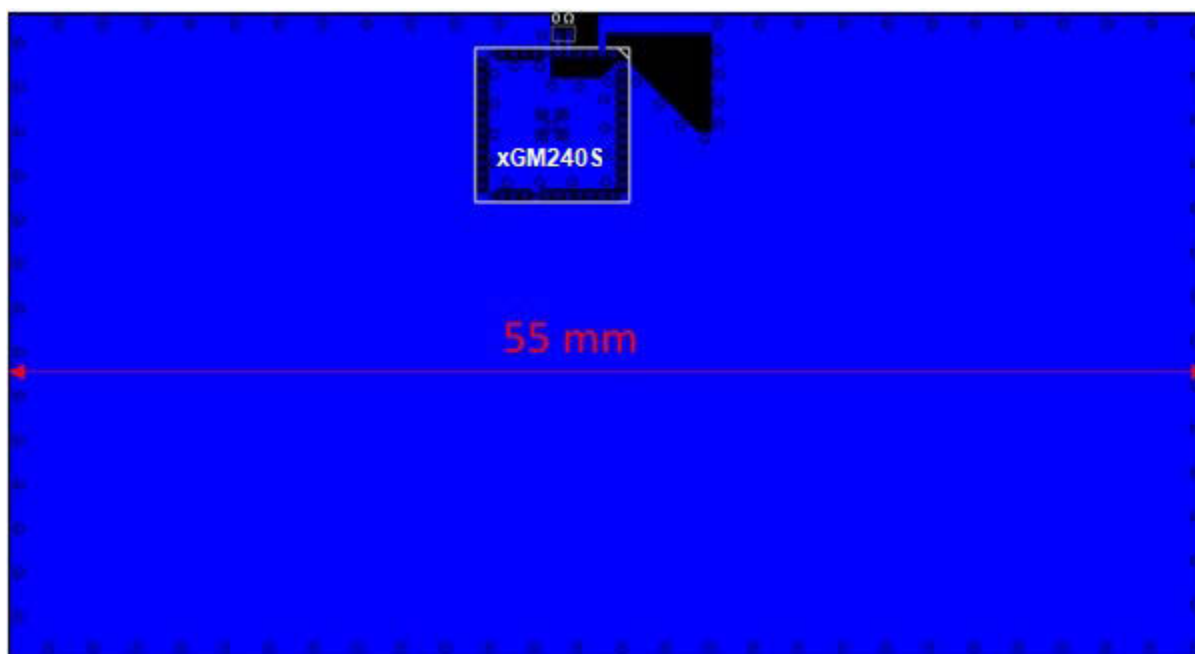

Figure 7.5. Illustration of Recommended Board Width
- To achieve optimal performance, a GND plane width of 55 mm is recommended as seen on Figure 7.5 Illustration of Recommended Board Width on page 43.